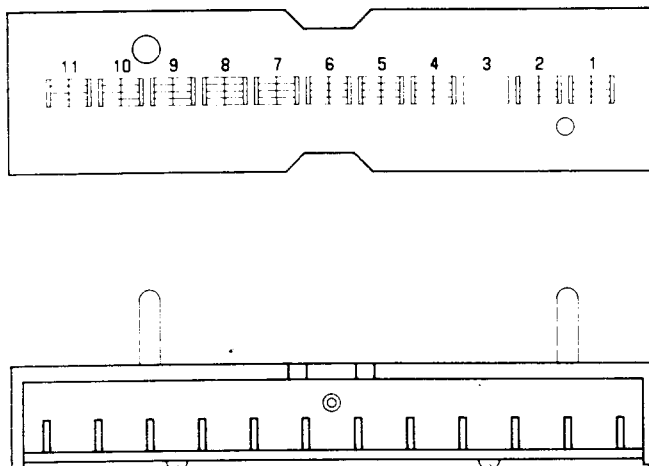

Fig. 20—938A, B, or C Connector
2.17 938A, B, and C: The 938A, B, and C connectors (Fig. 20) consist of a molded plastic cavity block, a backplate, and contacts which are arranged to terminate on a printed wiring board. These connectors are used in 201- and 205-type repeaters and mates with the 421A plug.